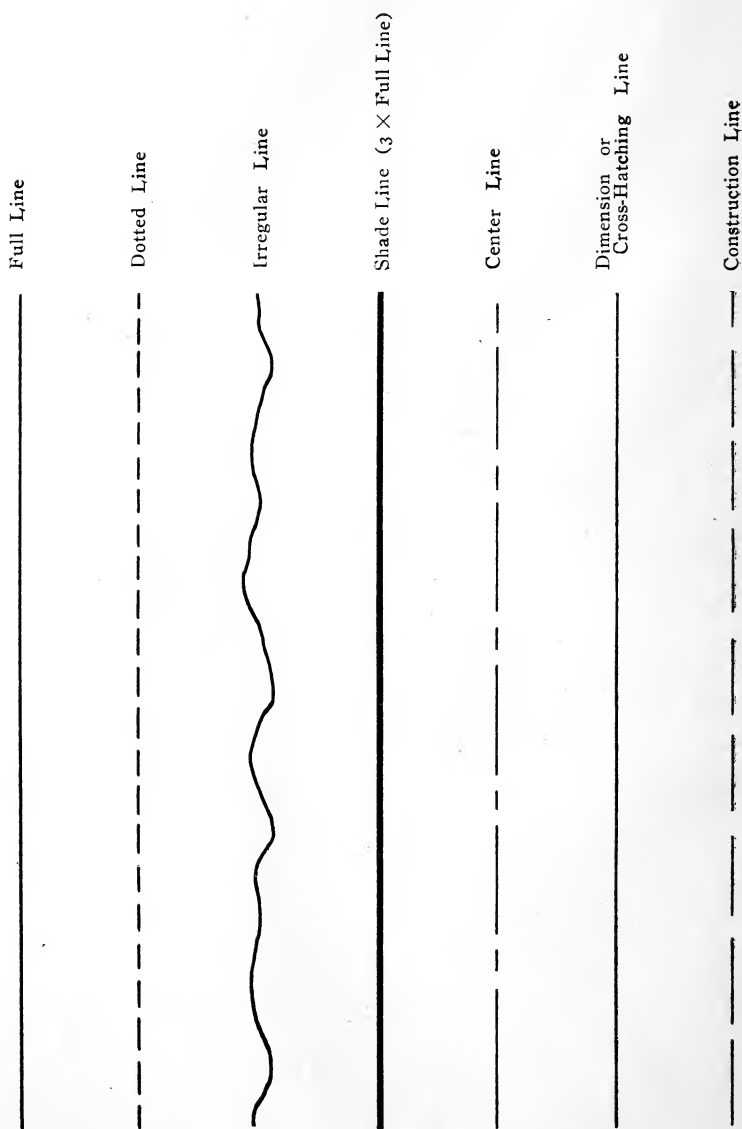

Fig. 16. Sample Lines Showing Exact Weight to be Used on Drawings.
4. **LINES.** Each of the different kinds of lines (Fig. 16) used in a drawing has a definite meaning and use. All lines showing any part of the object, whether full, dotted or irregular lines, are of the same weight or thickness, except shade lines, which are three times as heavy; all other lines are lighter.
5. **INKING IN.** A drawing should not be inked in until it is complete in pencil. The ink lines should be of the thickness shown in Fig. 16.